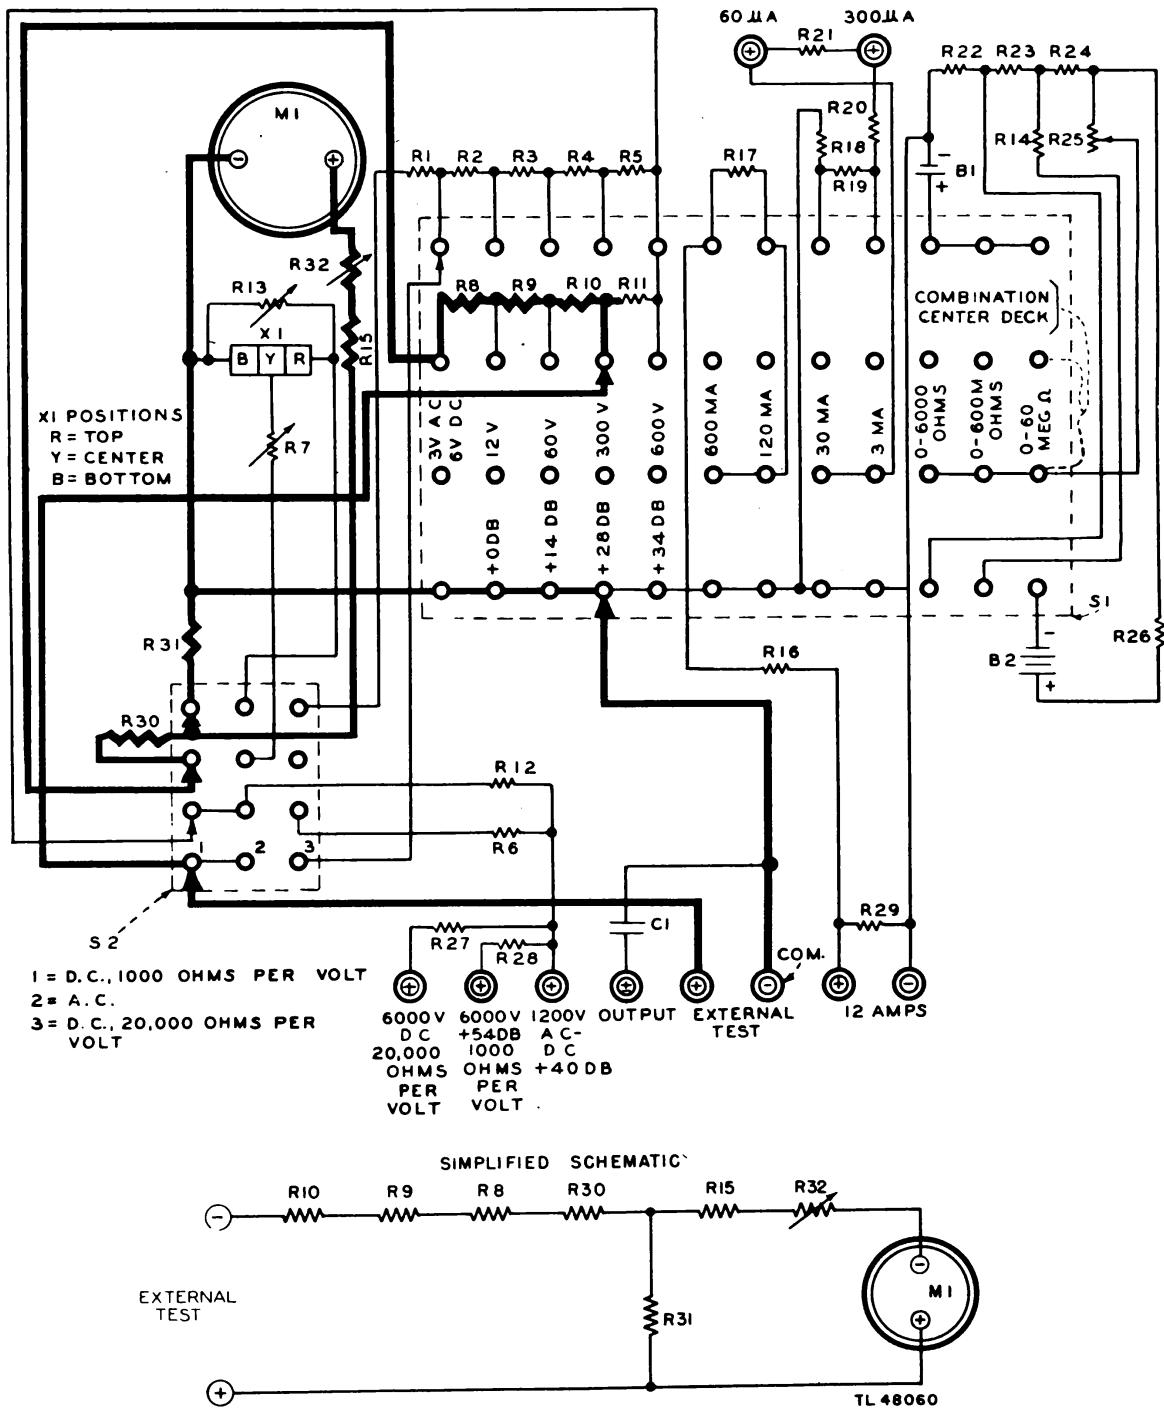

Figure 3. Circuit used for 60 to 300 volts d-c measurement at 20,000 ohms per volt.
c. D-c Voltmeter. Figure 3 shows a simplified schematic diagram of the circuit used to make d-c voltage measurements at 20,000 ohms-per-volt sensitivity from 60 to 300 volts. All d-c voltage measurements are also available at 1,000 ohms-per-volt sensitivity by turning the three-position switch to the position marked D.C. 1000 OHMS PER VOLT.